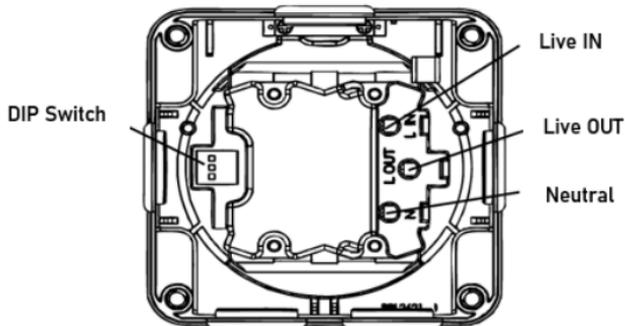

Fig. 3
- Replace the gasket onto the backbox, then wire as shown below (see Fig. 3)